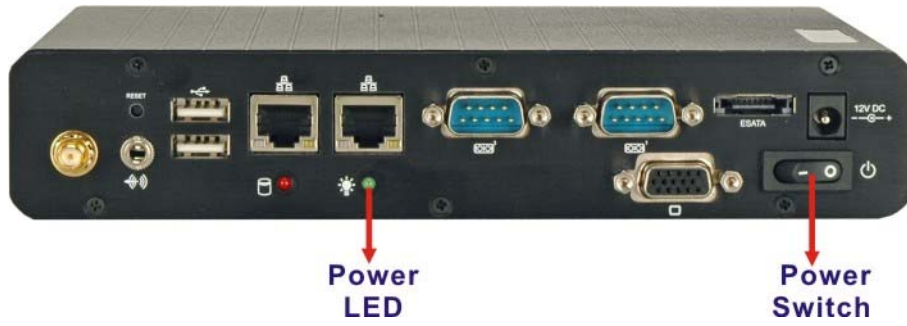

Figure 4-12: Power Switch and Power LED
Step 2: Once turned on, the green power LED should be turned on. See **Figure 4-12**.